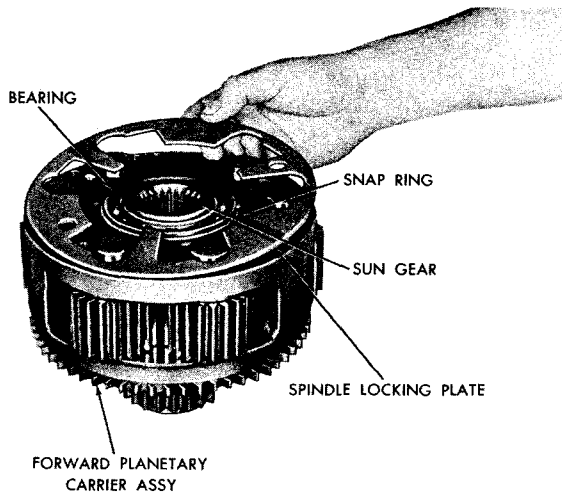

Fig. 5-31. Removing spindle lock plate
(2) Release the spindle locking plate by rotating it clockwise, and remove the plate (fig. 5-31). Remove the snapping that retains the bearing and sun gear. Remove the sun gear and bearing. Remove the bearing only if replacement is necessary. Refer to paragraph 6-16 for the forward carrier assembly rebuild.